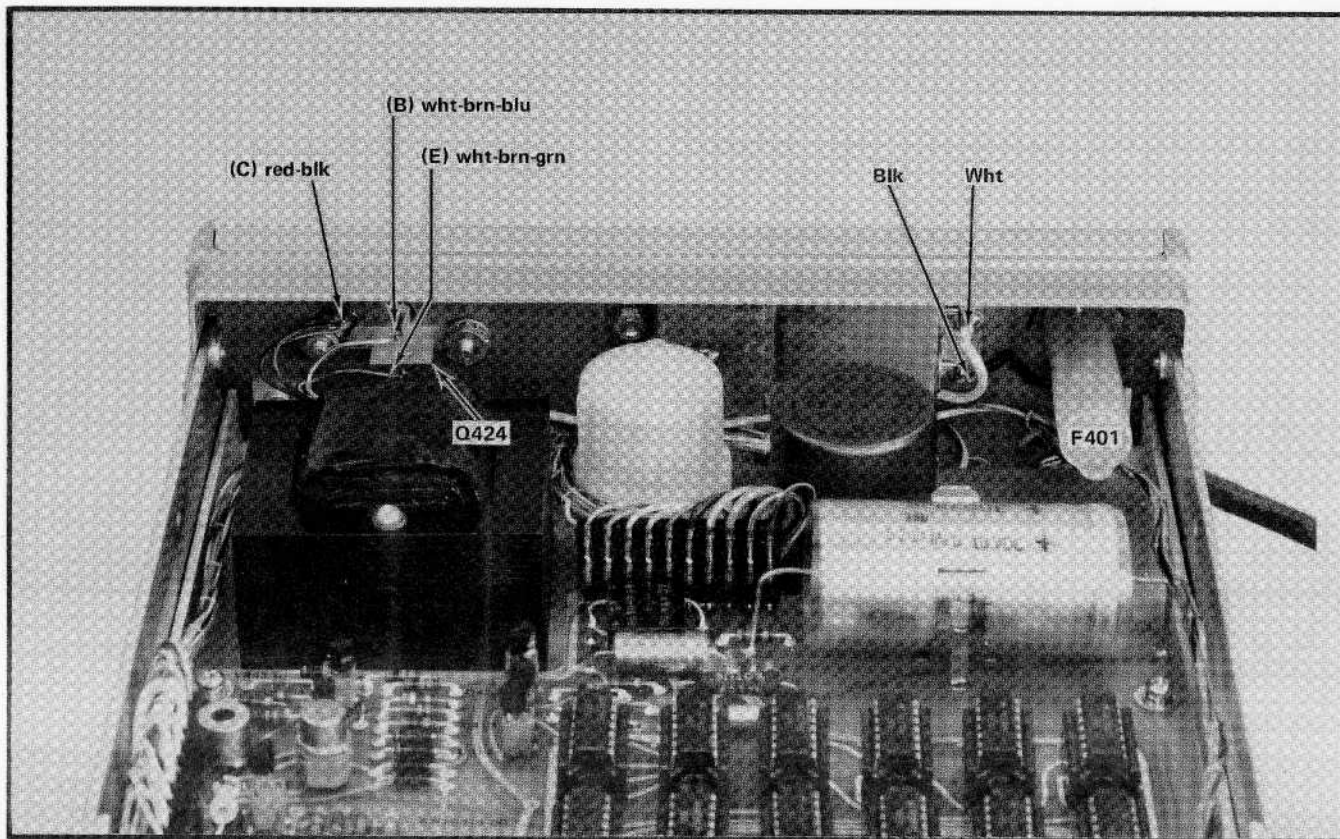

Fig. 4-9. Location and installation of the optional RF line filter.
4. Check power supply voltages, then circuit voltages and waveforms. The schematic diagrams contain pertinent voltages and waveforms for this purpose. Component location and test points are shown on circuit board call-outs at the end of this section (Fig. 4-9 and 4-10).
Fig. 4-9 illustrates the location and installation of an optional RF line filter.